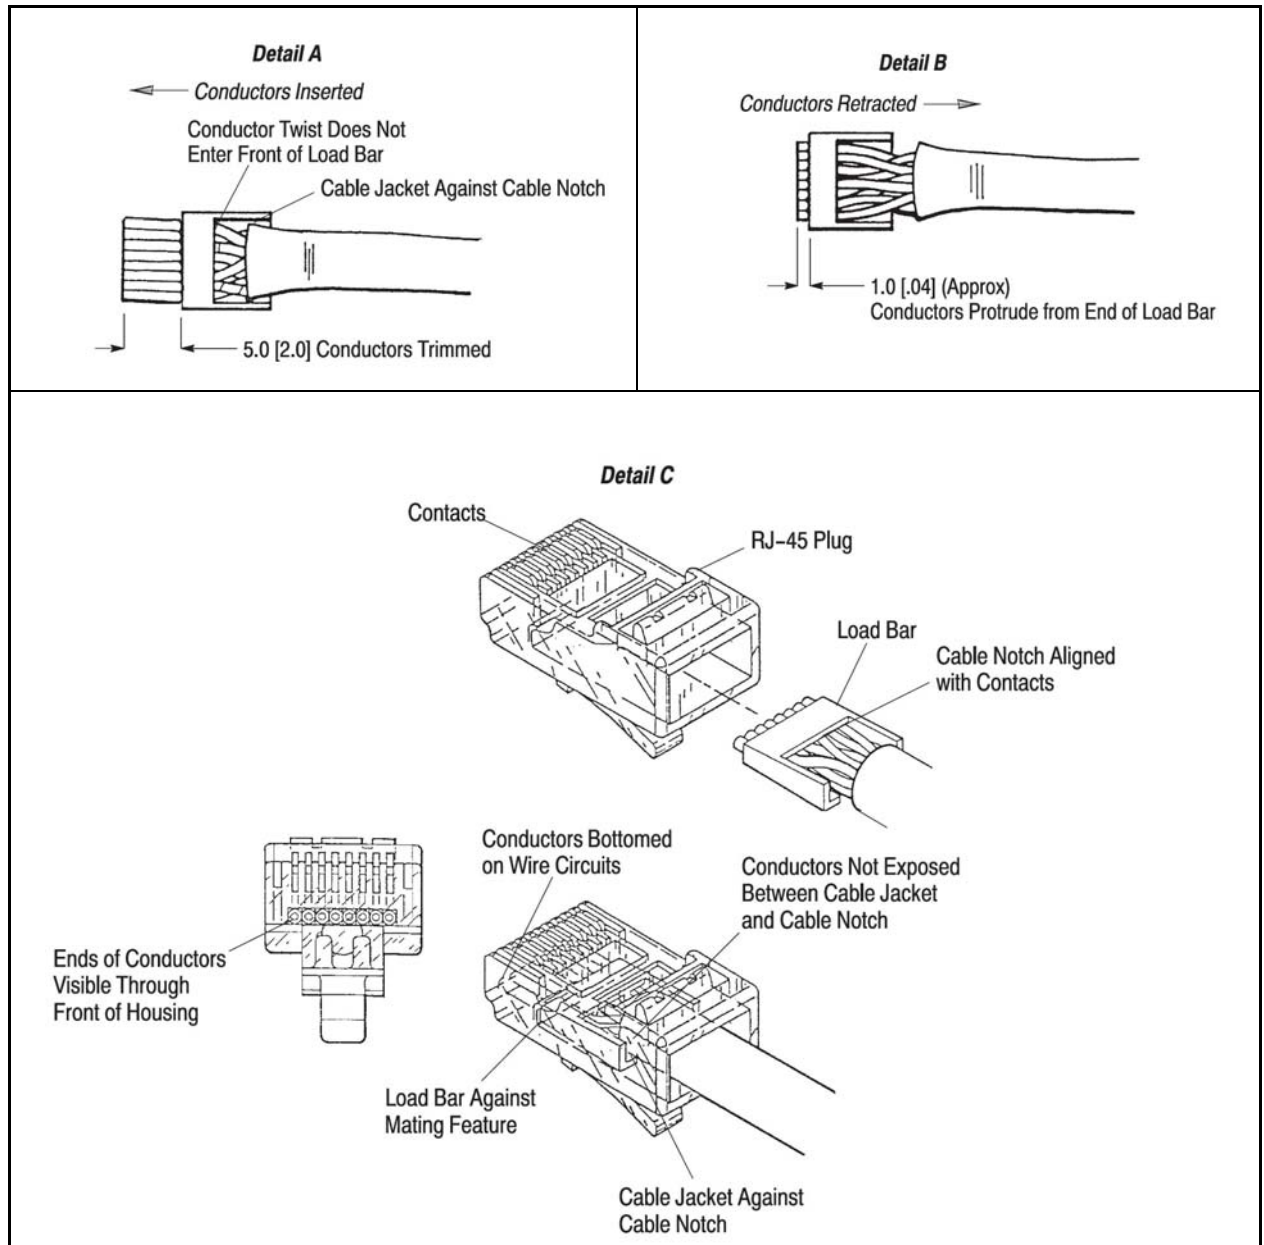

Figure 11-4: Termination Requirements
1. The conductors (maintaining arrangement) must be inserted into the load bar (oriented so that the cable notch will align with the contacts) until the cable jacket rests against the cable notch. The conductor twist must not enter the front of the load bar. The conductors must be trimmed evenly and square with the front edge of the load bar to the dimension given in Figure 11-4, Detail A.
- The conductors must be retracted from the load bar so that the conductors protrude from the end of the load bar to the dimension given in Figure 11-4, Detail B. The top of the load bar must not be deformed.
- The load bar (oriented so that the cable notch is aligned with the contacts) must be inserted into the RJ-45 plug until it butts against the mating feature of the RJ-45 plug, and the conductors are bottomed on the wire circuits. The cable jacket must be against the cable notch after the load bar is fully seated. The conductors must not be exposed between the cable jacket and cable notch. The ends of the conductors must be clearly visible through the front of the RJ-45 plug. See Figure 11-4, Detail C.